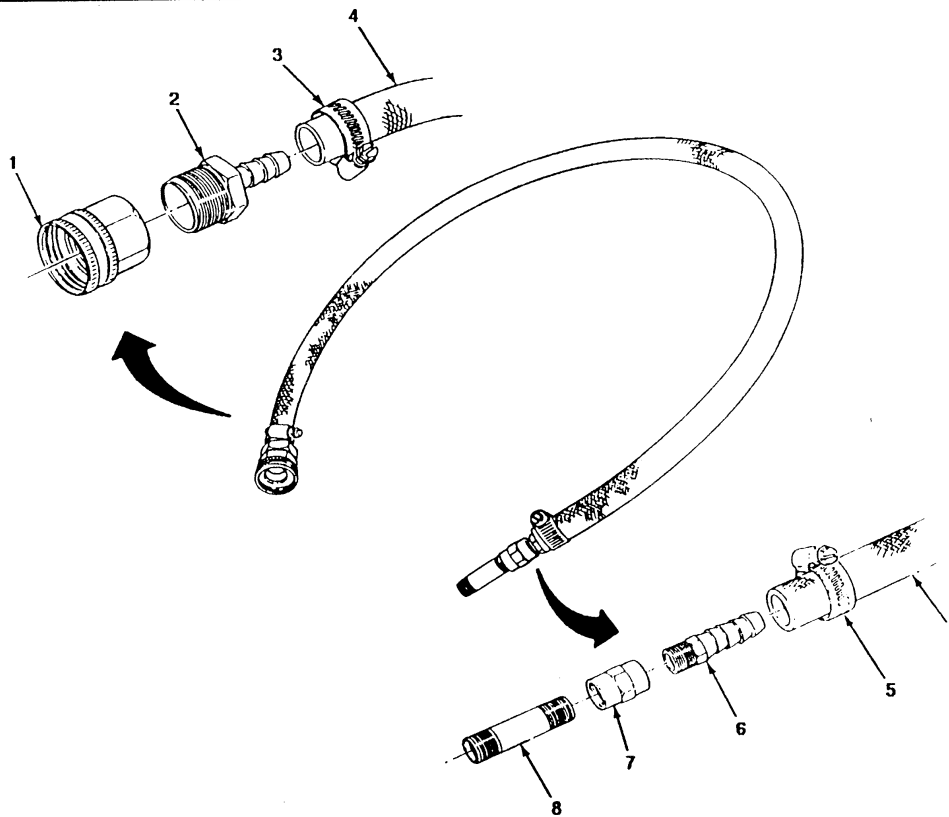

FIGURE 3-11
1. Position NSN 4730-00-024-3971 hose clamp (3) and NSN 4730-01-309-0949 straight adapter (2) on three feet of hose (4) and tighten hose clamp (3). (see figure 3-11)
2. Apply NSN 8030-01-054-0740 sealing compound to threads of straight adapter (2) and connect NSN 4730-00-547-0941 straight swivel adapter (1) to straight adapter (2). (see figure 3-11)
3. Position NSN 4730-00-024-3971 hose clamp (5) and NSN 4730-00-140-3770 straight adapter (6) on hose (4) and tighten hose clamp (5).
4. Apply sealing compound to threads of straight adapter (6) and connect NSN 4730-00-322-8237 pipe coupling (7) to straight adapter (6). (see figure 3-11)
5. Apply sealing compound to threads of NSN 4730-00-193-2709 pipe nipple (8) and connect pipe nipple (8) to pipe coupling (7). (see figure 3-11)